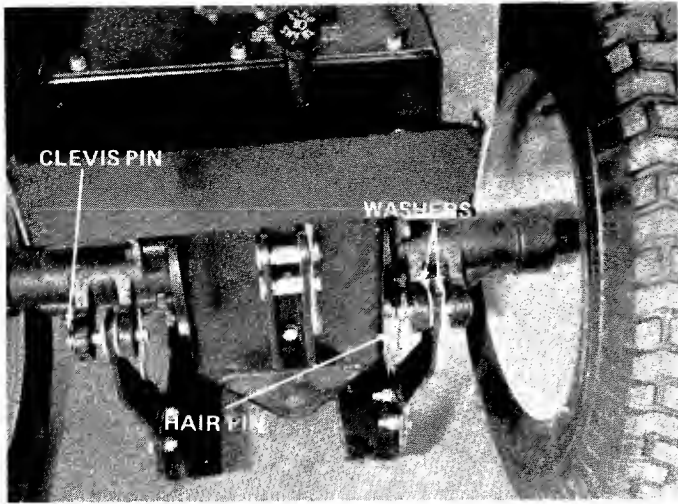

FIGURE 20
6. Raise the rear end of snow thrower up to align hanger brackets with holes in back of tractor transaxle. Use clevis pins, washers and hair pins from tractor 3 point hitch. After installing clevis pins, tighten bolts on hanger brackets using two 9/16" open end wrenches. See figure 20.